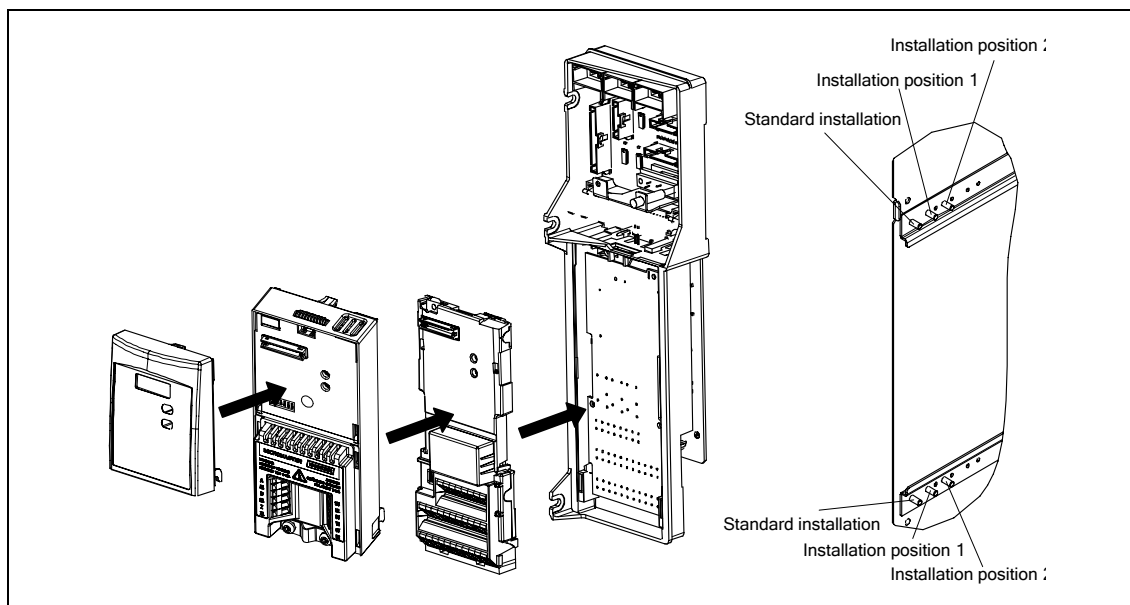

Figure 2-7 Installation of options for the electronic box
- Screw on electronic box in correct installation position as shown in Figure 2-7